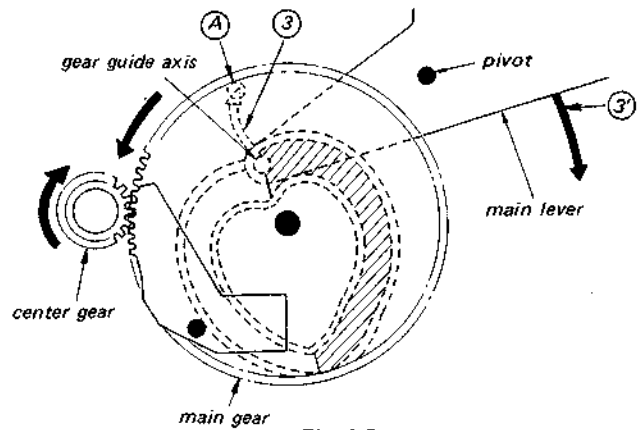
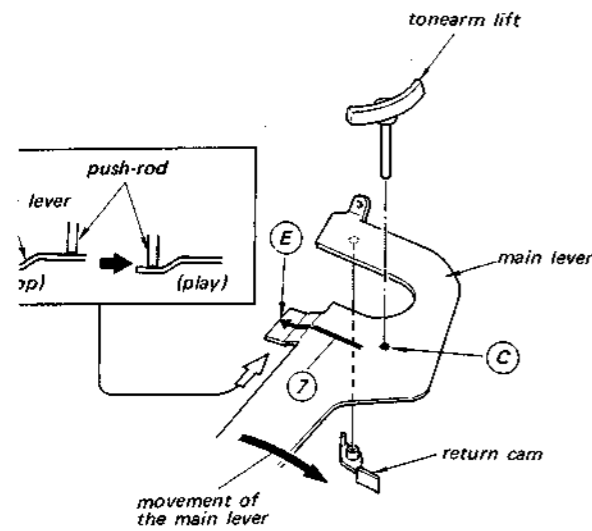
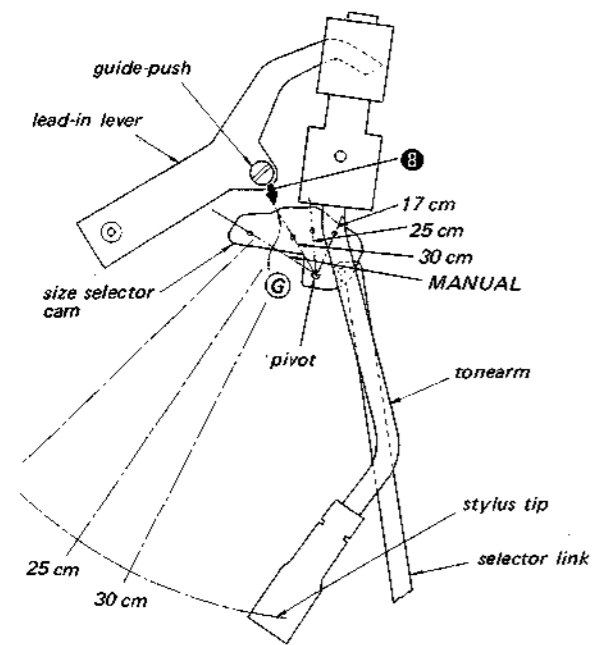
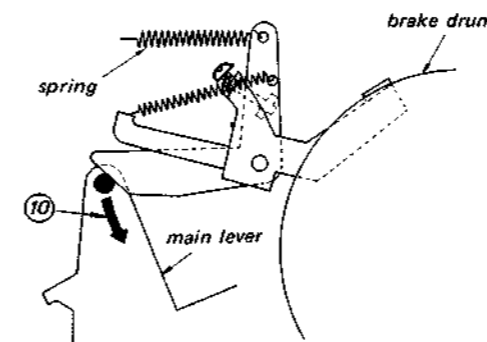

Fig. 1-3.
Fig. 1-5.
Fig. 1-6.
Fig. 1-8.
4. The gear guide axis at the tip of the main lever, is guided by the shaded section of the heart-shaped cam groove located on the main gear, moving across in a curved path ③ to position ④. Therefore, the main lever moves in the direction of arrow ③. (See Fig. 1-3.)
The central axis of the push rod resting against the tonearm lifter is on the position (C) in STOP mode. (See Fig. 1-5.)
During lead-in, the main lever moves across in the direction of arrow (3) (See Fig. 1-3), resulting in the position of the central axis of the push rod moving across as shown by arrow (7). (Fig. 1-5.)
- The guide-push stops at the position determined by the surface (G) (Fig. 1-6) of the record size selector cam. The push rod consequently descends to the lower position (E) of the main lever (Fig. 1-5), resulting in the tonearm lowering onto the surface of the record for the commencement of play.
- The position where the tonearm lowers (30 cm, 25 cm, 17 cm) is determined by the position of the record size selector cam shown in Fig. 1-6. The guide-push of the lead-in lever moves across in direction of arrow (8) during lead-in, and meets the size selector cam at surface (G) (for the 30 cm example shown), thus determining the drop point at the outer edge of a 30 cm record. That is, this position determines the distance moved by the lead-in lever, which consequently determines the rotational angle of the brake drum (and of the tonearm as well). With the record size selector knob set to the MANUAL position, the lead-in lever moves a little and the tonearm does not move.
- The return cam attached to the main lever (see Fig. 1-5) pushes against the pin of the brake drum, forcing the tonearm to move back (horizontally) towards the arm rest.
- The return operation is completed when the tonearm arrives back at the arm rest. The main gear comes to a stop in the position shown in Fig. 1-3.
Furthermore, a spring is also employed to exert pressure upon the main lever in the direction of arrow (10) (see Fig. 1-8), thus keeping the main gear in the stop position. (See Fig. 1-3.)